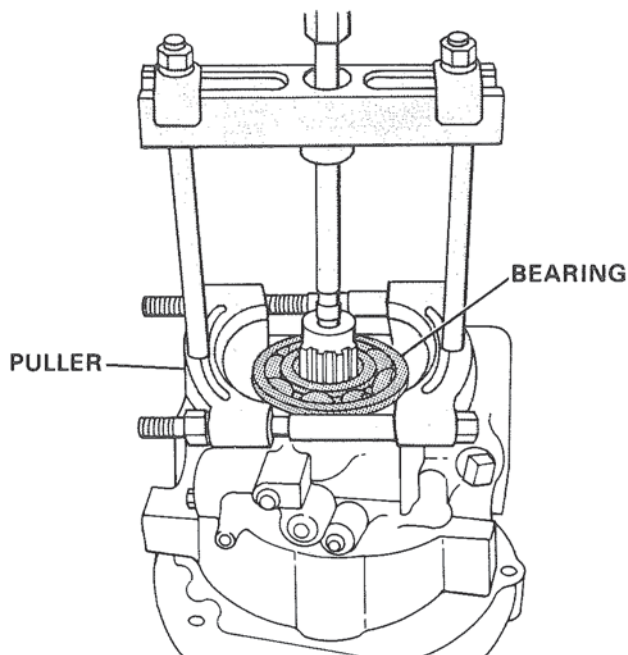

Figure 37. Removing Bearing from Case.
1. Using bearing puller, grasp bearing by exposed groove in outside diameter and gently pull bearing from case. Figure 37.